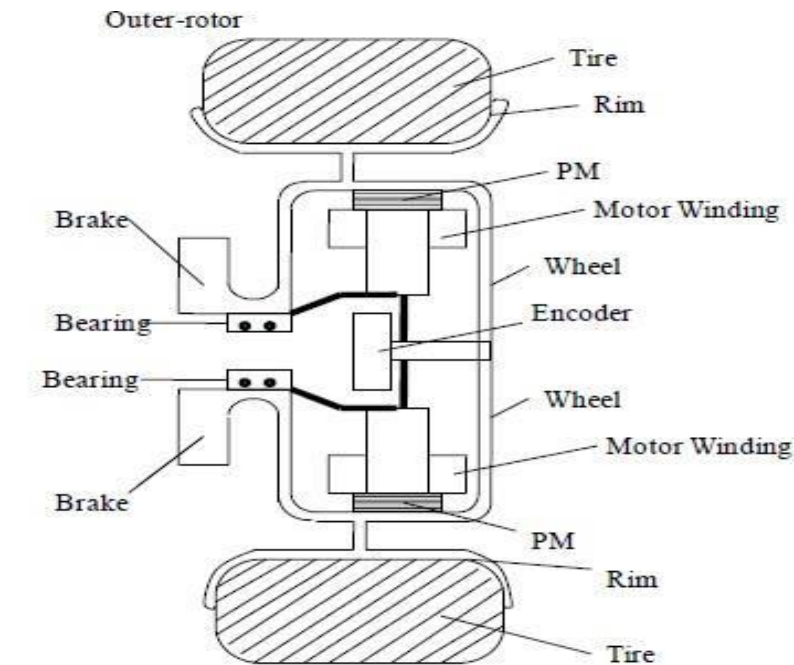

Figure 6b: Outer rotor In Wheel drive [1]
- ❖ In case outer rotor motor is used (**Figure 6b**), transmission can be totally removed and the outer rotor acts as the wheel rim and the motor speed is equivalent to the wheel speed and no gears are required.